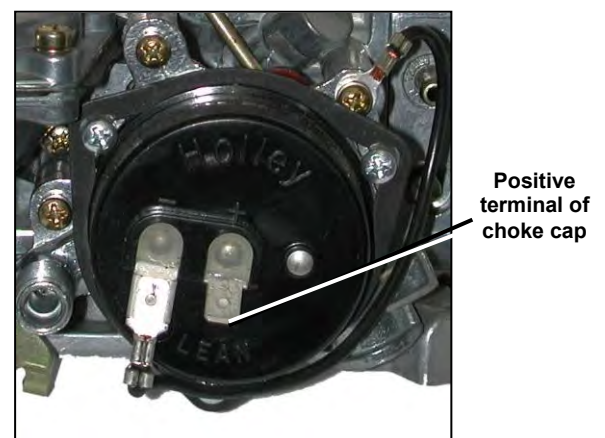

Figure 5
6. Connect the electric choke lead (supplied) to the positive terminal of the choke cap. Connect the other end to an **ignition-activated 12 volt** power source. Do not hook to the positive side of the ignition coil. **Hookup of this wire is NOT optional (Figure 5).**